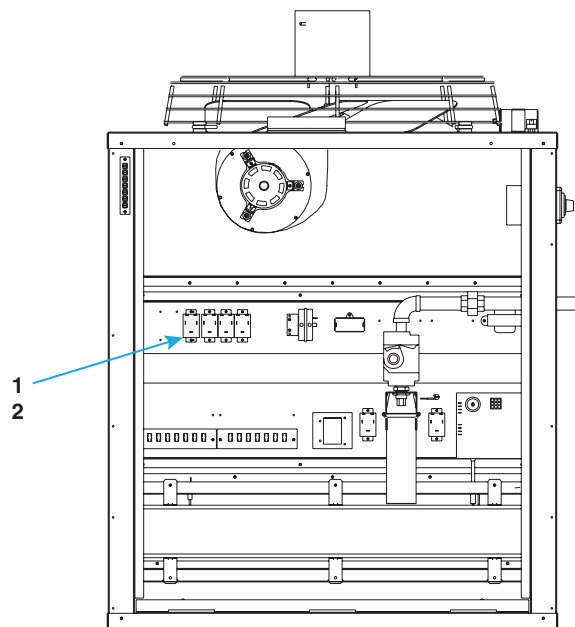

Figure 5. Relay Installation—Model LDAP (Refer to Table 1)
- (1) Remove control compartment access panel from main heat section.
- (2) Position relay assembly (1) as shown in **Figure 5** and secure using screws (2).
- (3) Install control compartment access panel.